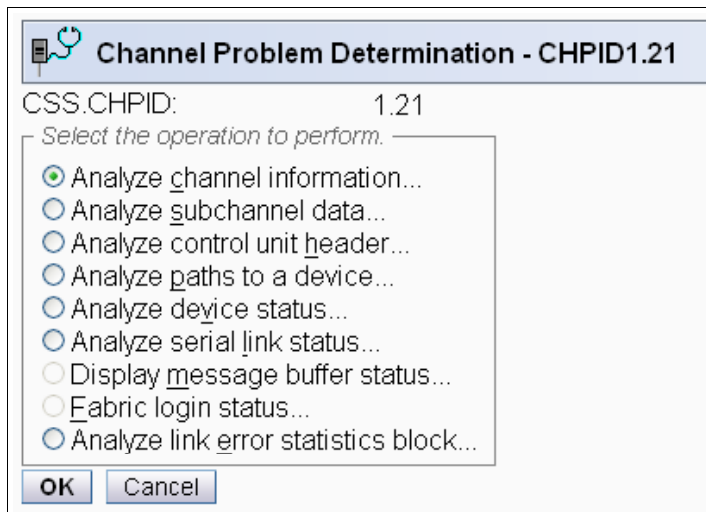
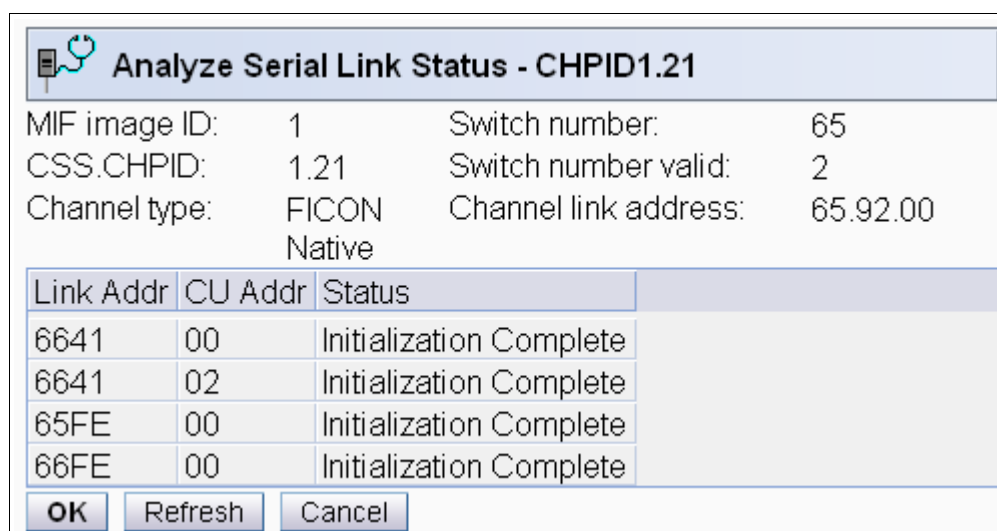

Figure 7-55 HMC Channel Problem Determination panel
Figure 7-57 HMC Analyze Serial Link status
3. Check that the FICON channels are connected to the correct FICON switch and port. On either the PCHID details or CHPID details panel, click **Channel Problem Determination** to display the Channel Problem Determination panel, where you can select which information you want to display (see Figure 7-55).
- On the Channel Problem Determination panel, shown in Figure 7-55 on page 241, select **Analyze Serial Link Status**, and click **OK**. The Analyze Serial Link Status window is displayed, as shown in Figure 7-57.
The Analyze Serial Link Status window provides status information about the link to the control unit images defined in the IOCDs. Scroll through the list of CU images and check that status for all CUs is Initialization Complete. In this case, Figure 7-57 shows a link status of **Initialization Complete** for all defined CU images on link address 65FE, 66FE and 6641.